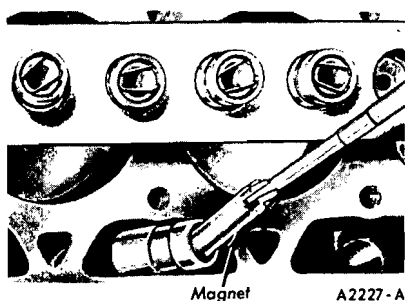

FIG. 35—Valve Lifter Removal
12. Using a magnet, remove the valve lifters and keep them in order so that they can be installed in their original location (Fig. 35).
2. Using a magnet, remove the valve lifters (Fig. 35). Place the lifters in a rack so they can be installed in their original positions.
3. Install new (or cleaned) hydraulic valve lifters through the push rod openings with a magnet (Fig. 35).